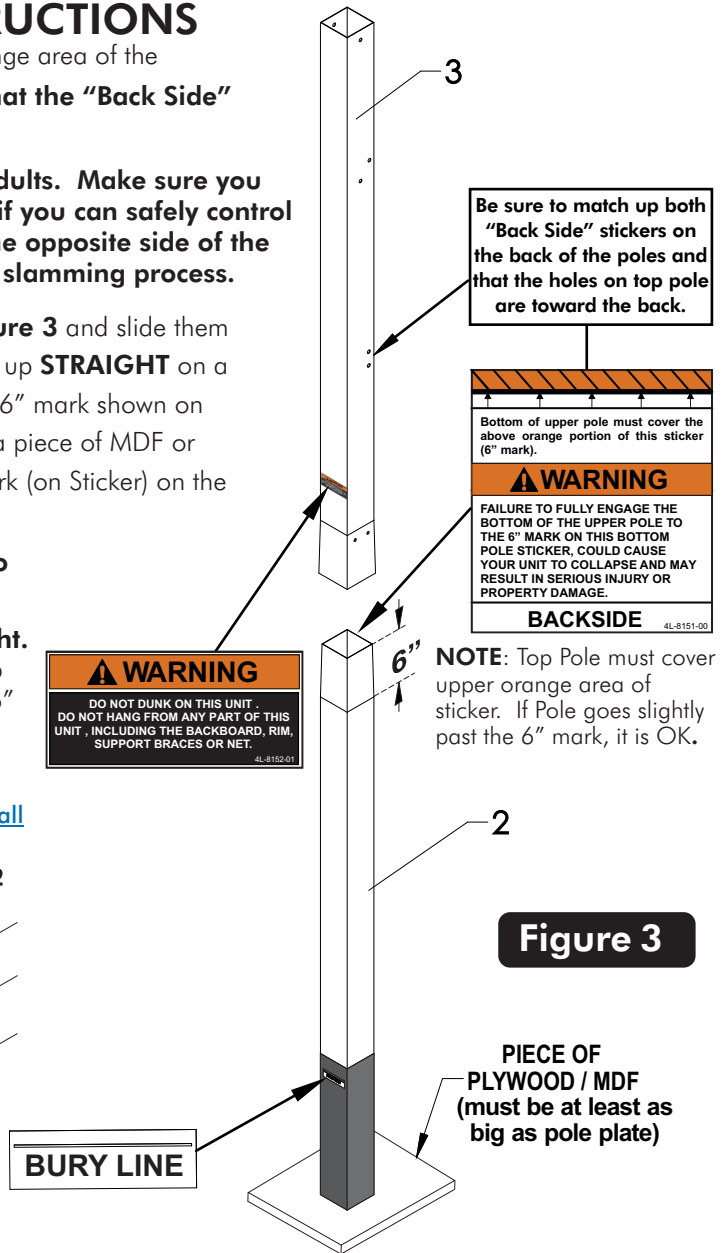

Figure 3
1. Before putting any of the poles tubes together, make sure that the orange area of the Warning Sticker on Pole (#2) is 6 inches from the top end. **Be sure that the "Back Side" stickers are on the back of the pole.** See **Figure 3**.
2. Align the upper pole (#3) with the bottom pole (#2) as shown in **Figure 3** and slide them together. While maintaining control of the pole assembly stand poles up **STRAIGHT** on a piece of MDF or plywood, **lift poles up by bottom pole** below the 6" mark shown on sticker and slam down the bottom pole as many times as needed on a piece of MDF or plywood **until the bottom of the upper pole reaches the 6" mark** (on Sticker) on the bottom pole. See **Figure 3**.